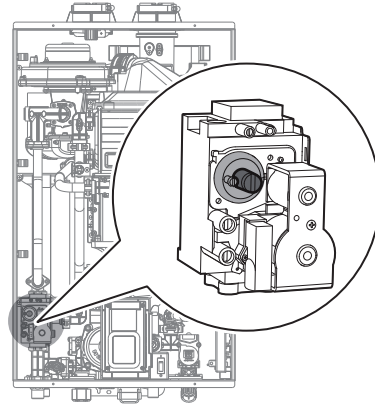

Figure 8. Set Screw Location
- c. Fully open several hot water fixtures and set the water heater to operate at 1-stage MIN mode (refer to page 43). Measure the CO2 value at low fire. If the CO2 value is not within 0.5% of the value listed in Table 2, the gas valve set screw will need to be adjusted. If adjustment is necessary, locate the set screw as shown in Figure 8. Using a 5/32" or 4mm Allen wrench, turn the set screw no more than 1/4 turn clockwise to raise or counterclockwise to lower the CO2 value.